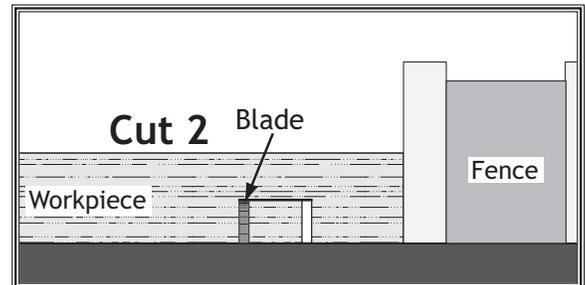

Figure 53. Second cut for a single dado cut.
7. Repeat the cutting operation on the other side of the dado channel, as shown in Figure 53.